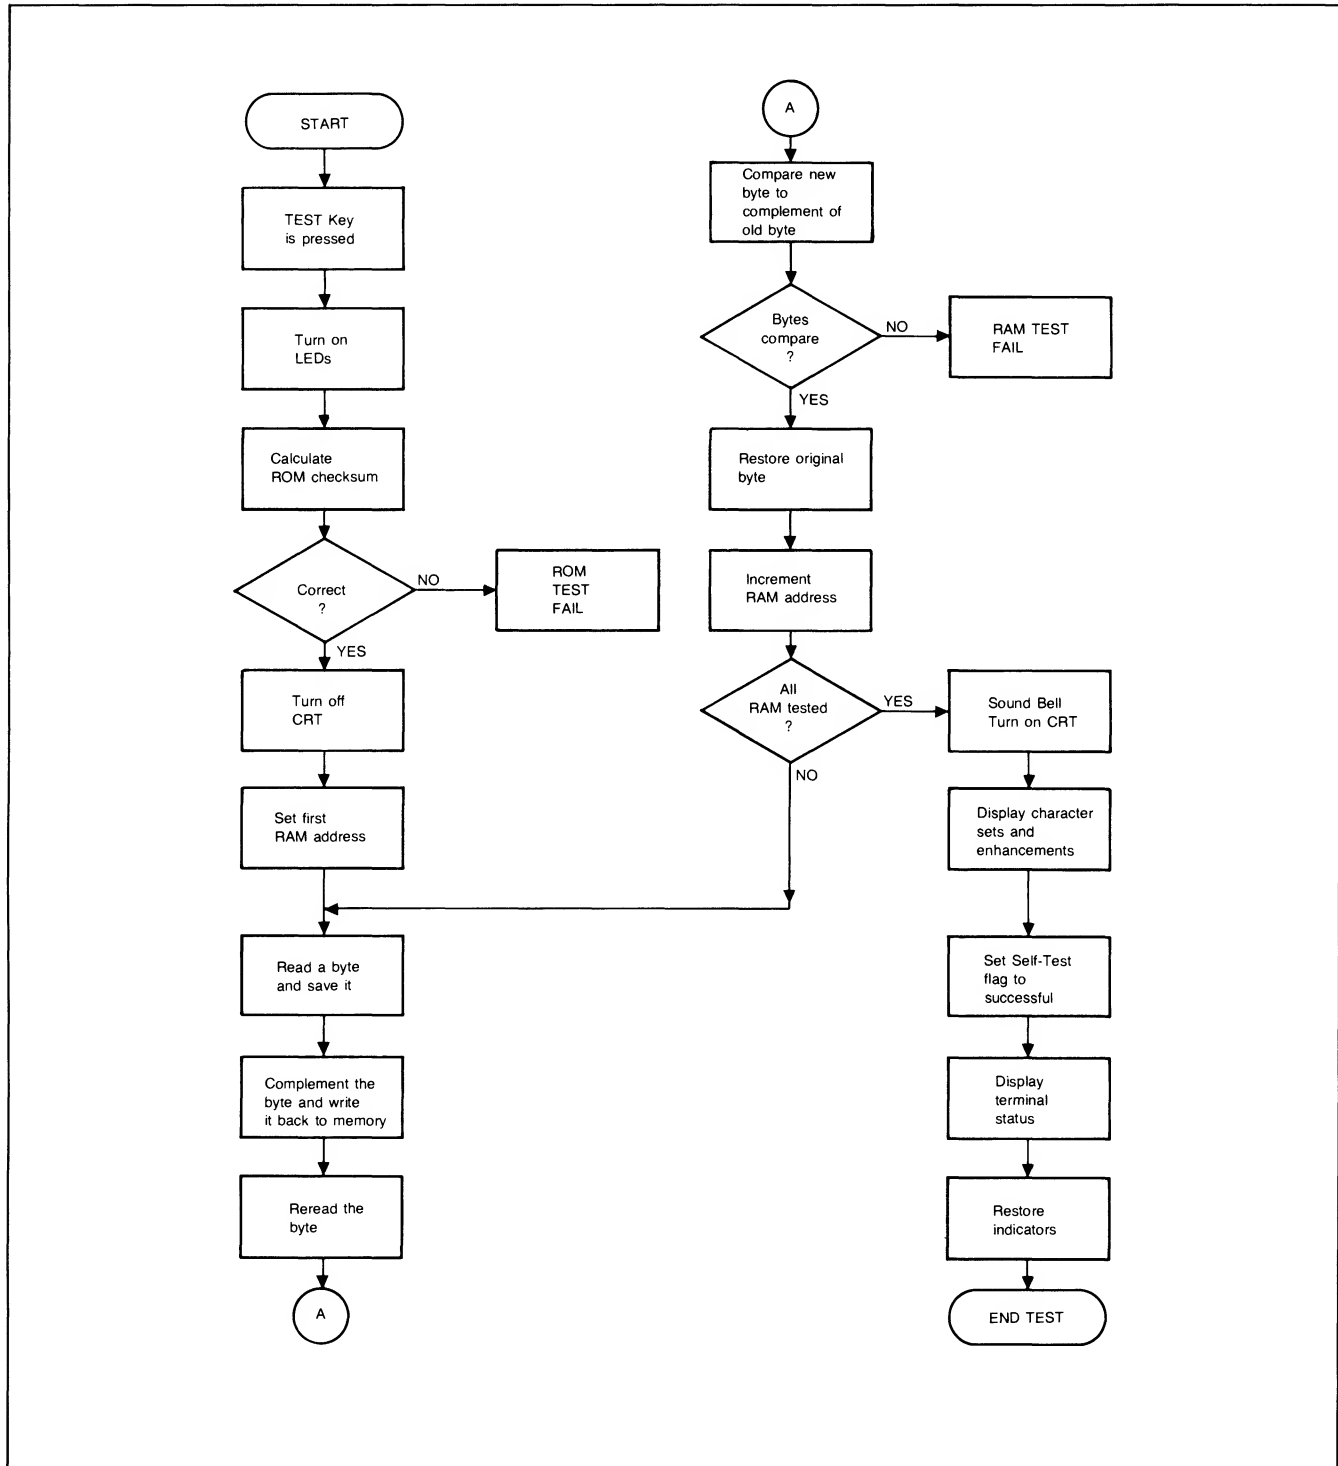

Figure 7-22. Self-Test Flowchart
Pressing  checks out the terminal. The following is performed when the  key is pressed (also see the flowchart in figure 7-22):
- A checksum test is done on the read-only memory (ROM). This verifies that the firmware is working properly. An error here causes a ROM TEST FAIL message to be displayed. (See flowchart, figure 7-22.)
- A checkerboard test is performed on the random access memory. An error here causes a RAM TEST FAIL message to be displayed. (See flowchart, figure 7-22.)